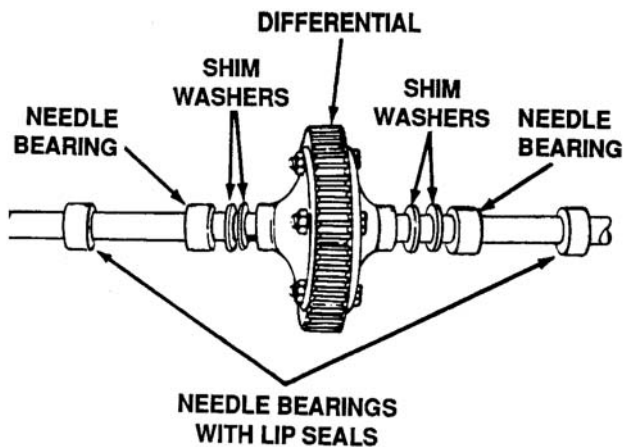

Figure 5-49. Location of Needle Bearings and Seals
30. Remove the four needle bearings from the axle shaft. See Figure 5-49.
Care **MUST** be taken upon reassembly of the input shaft into the housing. The two needle bearings have lip seals. Refer to Figures 5-49 and 5-65.